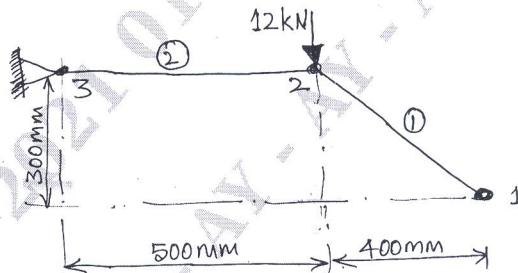

Fig. Q6
- 6 For the two bar truss shown in Fig. Q6, determine the nodal displacement, stresses in each element and reaction at the support.